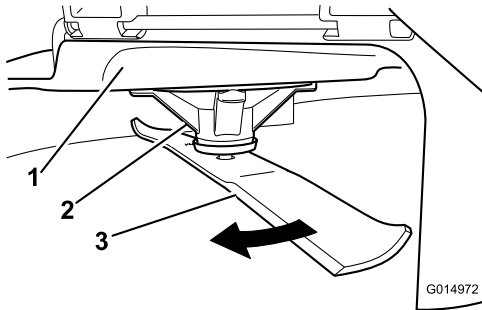

Figure 58
2. While wearing thickly padded gloves, or other adequate hand protection, slowly rotate the blade into a position that allows you to measure the distance between the cutting edge and the level surface the machine is on (Figure 58).